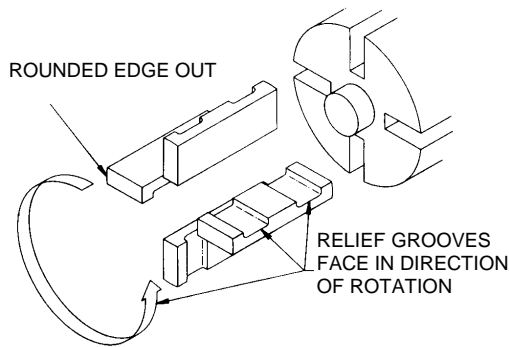

Figure 4 - Vane Installation
3. Turn the shaft by hand until a vane (14) comes to the top (12 o'clock) position of the rotor. Remove the vane.
4. Install a new vane, ensuring that the rounded edge is UP (facing outward) and that the relief grooves are facing TOWARDS the direction of rotation. See Figure 4.
9. Remove the four vanes (14) and two push rods (77) from the rotor assembly. Inspect for wear and damage, and replace as follows:
- a. The push rods **MUST** be installed before installing the rotor and shaft (13) into the pump cylinder / casing. To do so, hold the rotor and shaft vertical, with the non-driven (shorter end) down. Slide the push rods into the push rod holes of the rotor, then insert the rotor and shaft into the open end of the pump cylinder / casing.
- b. Insert new vanes into the rotor slots with the rounded edges outward, and the vane relief grooves facing **TOWARDS** the direction of rotation. Refer back to Figure 4 If necessary, move the push rods with a small screwdriver to install the vanes.
10. Install the inboard disc (71), head seal ring / O-ring (72), and sleeve (24) bearing as instructed in steps 2 – 4.
11. Install the inboard head and bearing assembly (20) on the pump cylinder / casing with the V-notch down, towards the bottom of the cylinder / casing. Use the head dowel pins for proper alignment.
12. For SMVP Models lubricate the four inboard head capscrews (21) with a quality grade of anti-seize compound, and install, torquing to 15 lbs ft (20.3Nm).